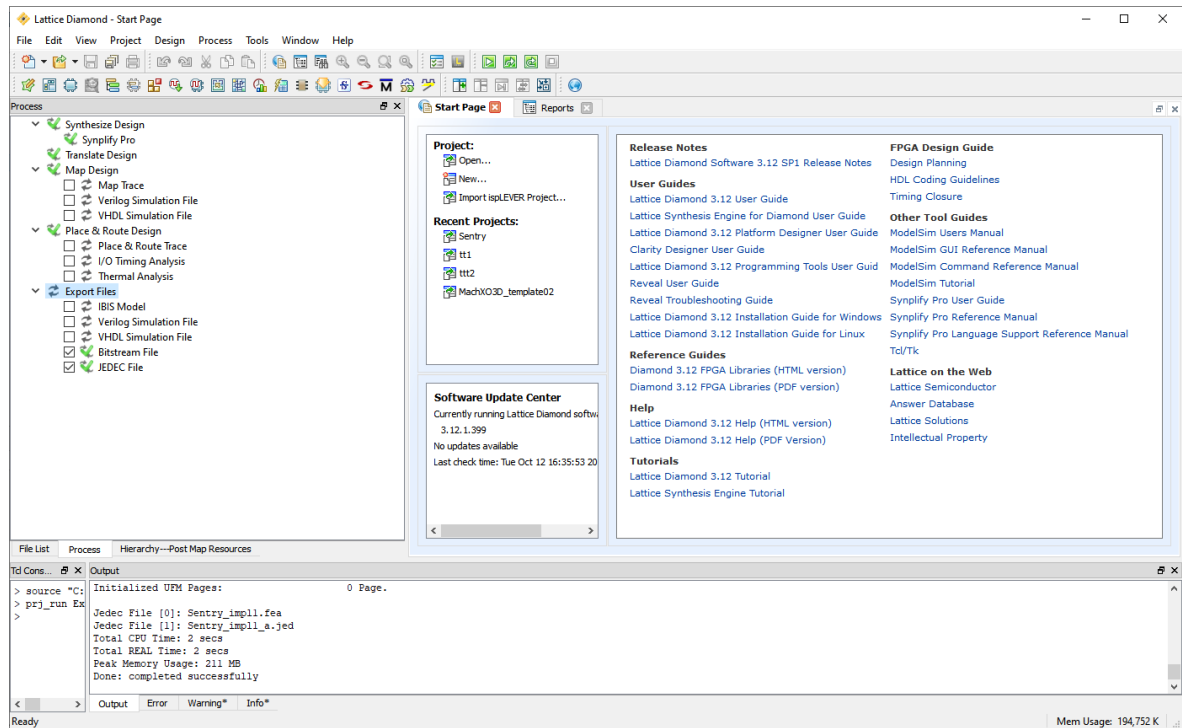

Figure 2.132. Generate Programming Files
- b. Switch to **Process** view of the Diamond project (Figure 2.132). Make sure at least one programming file (bitstream File or JEDEC file) is selected in the **Export Files** section. Available programming files can be different upon specific device included.